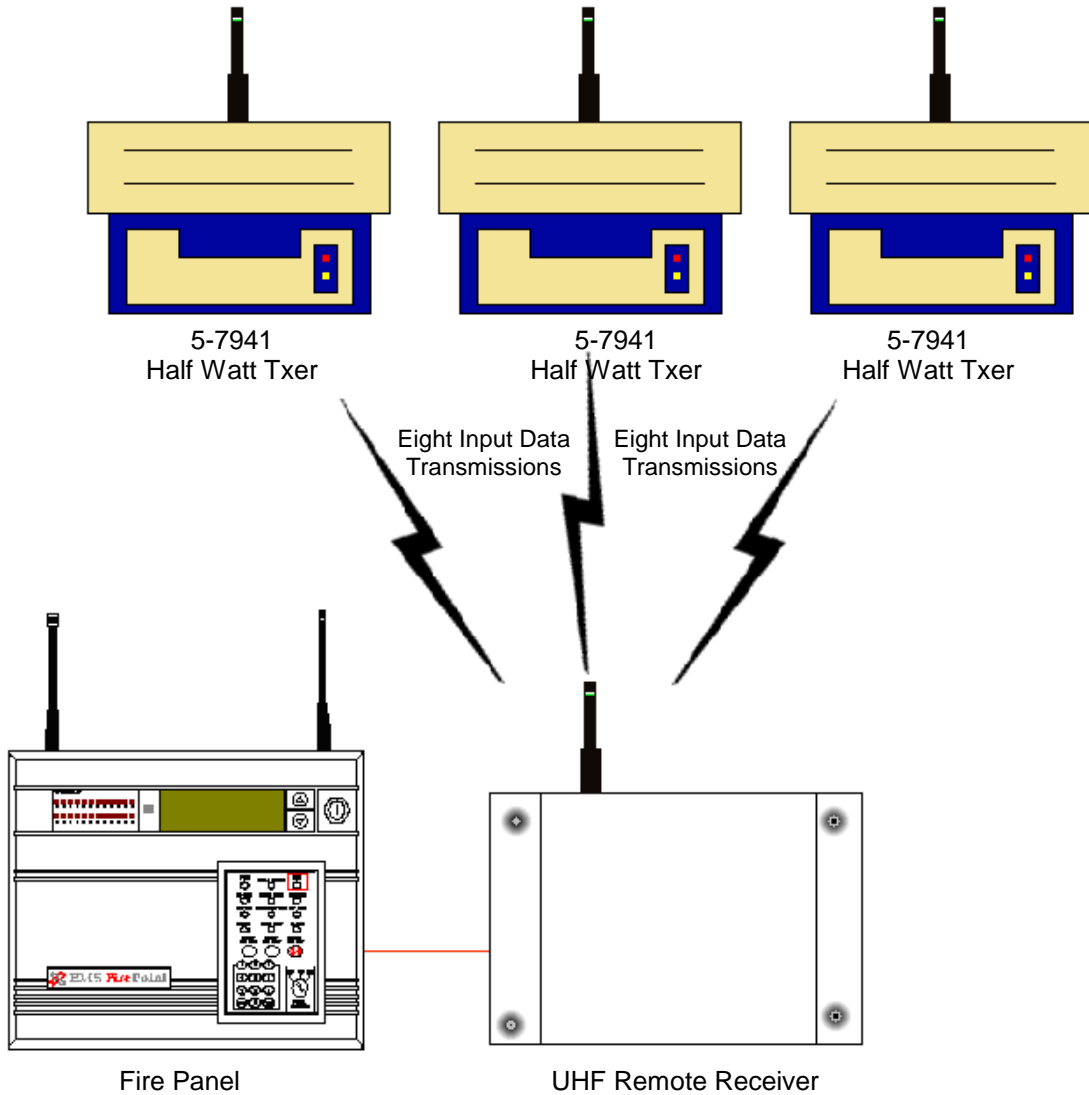

Figure 1
3.1 Remote devices and high gain aerials may also be required depending upon the customers specification and requirements. Please note both the eight input transmitter will require an external power supply. Figure 1 shows a typical system layout: